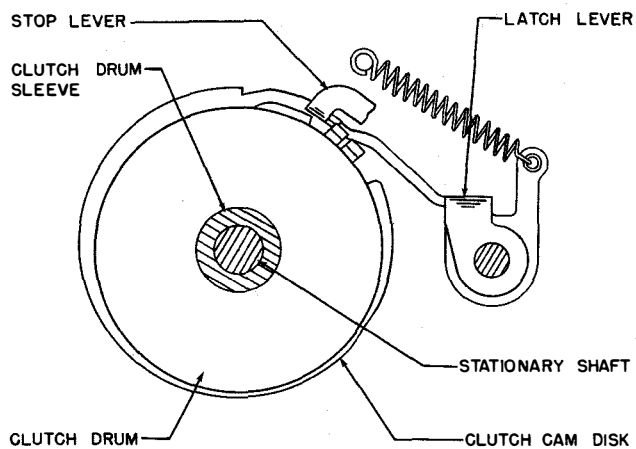

Figure 2-12. Keyboard Clutch Latch Mechanism
and the inertia of the cam disk assembly causes it to continue to turn until its lug makes contact with the lug on the clutch shoe lever. At this point the latch lever drops into the indent in the cam disk and the clutch is held disengaged until the stop lever is again operated (figure 2-12). For detailed information on the operation of the clutch shoes, see paragraph 4.b.(3) of this section.